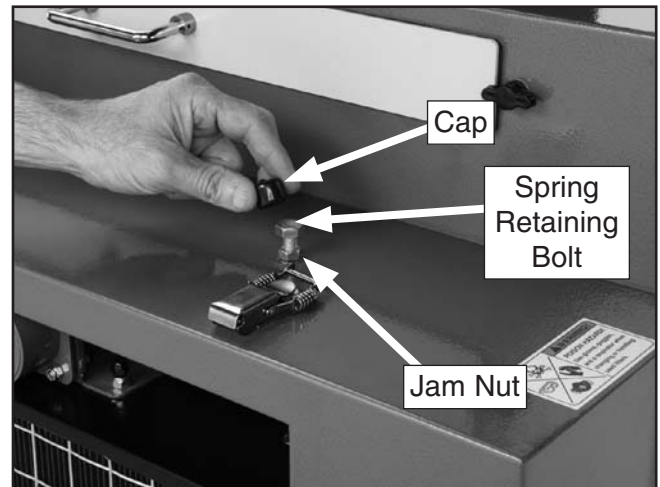

Figure 40. Vibrating filter retainer.
20. At this point, un-thread the retaining bolt approximately $1\frac{1}{2}$ " turns and lock the jam nut down against the cabinet so the bolt holds this position (**Figure 40**).